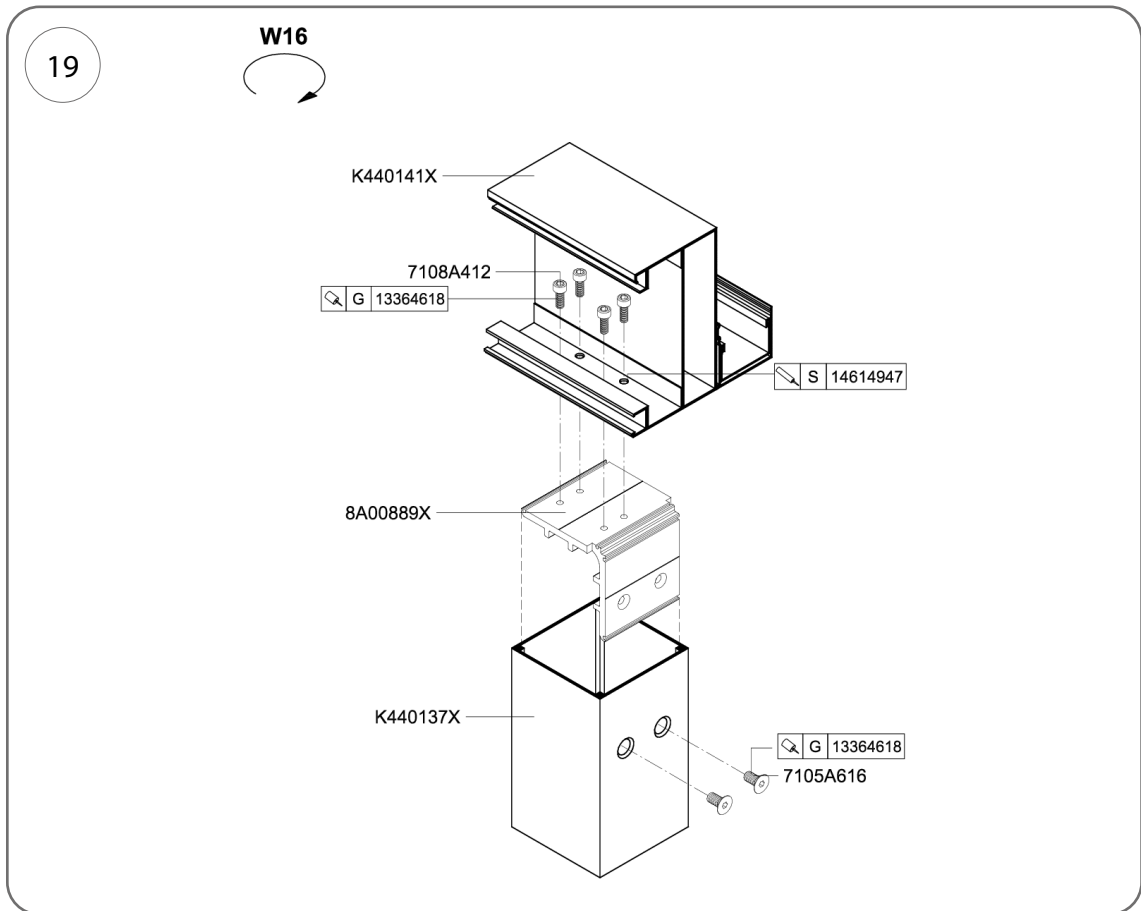
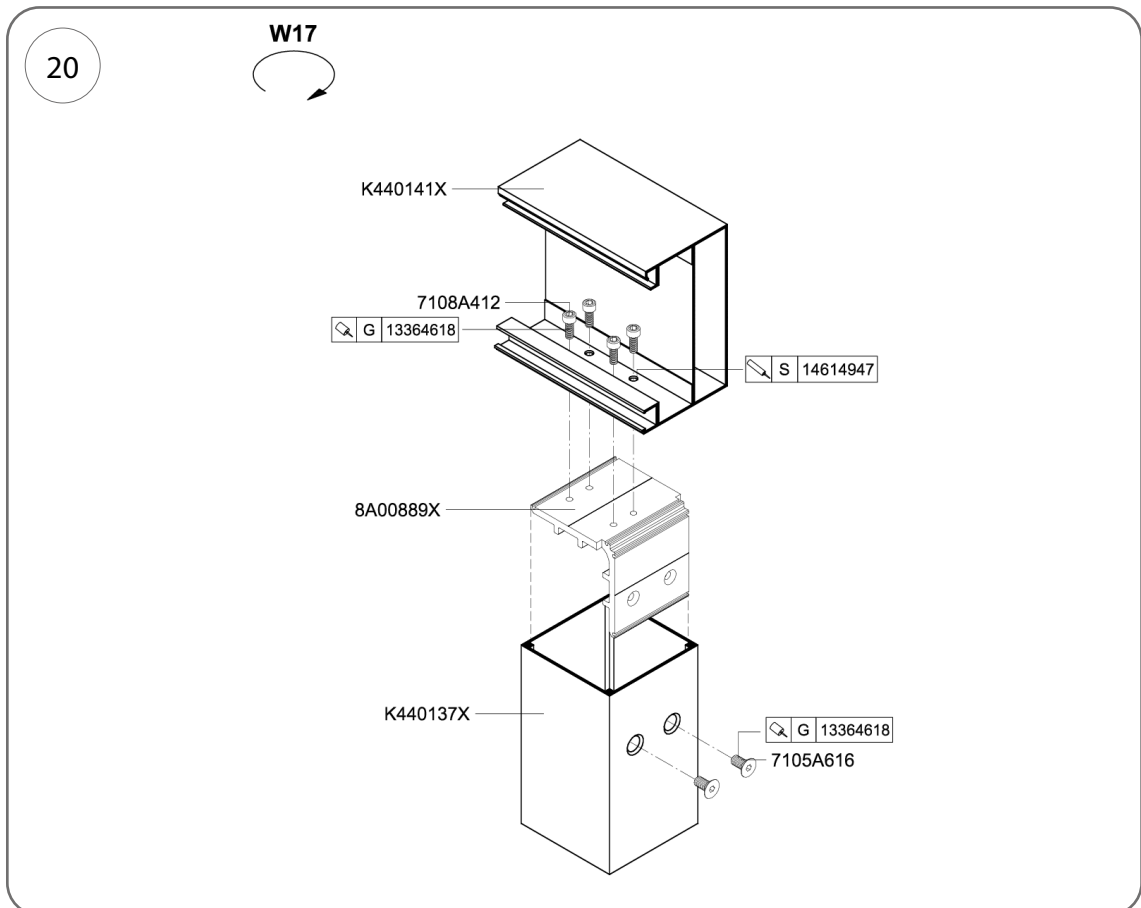

Fig. 19
Fig. 20
- Before securing the intermediate post to the bracket, attach post connector cat. no. 8A00889X (Fig. 19, Fig. 20) to its upper end using 2 M12x30 mm screws (cat. no. 7105A616).
3. Using 4 M8 x 20 mm Allen screws, cat. no. 7108A412, fasten the rafter or purlin profile to the connector, cat. no. 8A00889X, mounted in the post (Fig. 19 and Fig. 20).